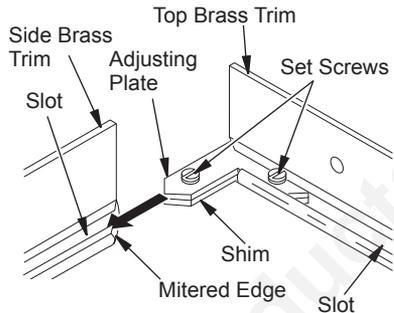

Figure 38 - Assembling Brass Trim
3. Align shim under adjusting plate as shown in Figure 38.
4. Slide one end of adjusting plate/shim in slot on mitered edge of top brass trim (see Figure 38).
5. Slide other end of adjusting plate/shim in slot on mitered edge of side brass trim (see Figure 38).